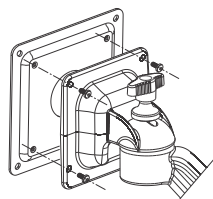

Fig. 4
5. Screw the Flat Screen to the Mounting plate as shown in Fig. 4.
4. Screw the Flat Screen to the Mounting plate as shown in Fig. 4.
4. Fix the Diagonal arm onto Extended Arm with Cap & M6 screw & then tighten the grub screw as shown in Fig. 4.
5. For VESA 100mm model, screw the 100mm plate to the hanging bracket with M4 screws as shown in Fig. 4.
4. For Vesa 100 mm model screw the 100 mm plate to hanging bracket with M4 screws as shown in Fig. 4.
5. For VESA 100mm model, screw the 100mm plate to the hanging bracket with M4 screws as shown in Fig.4.